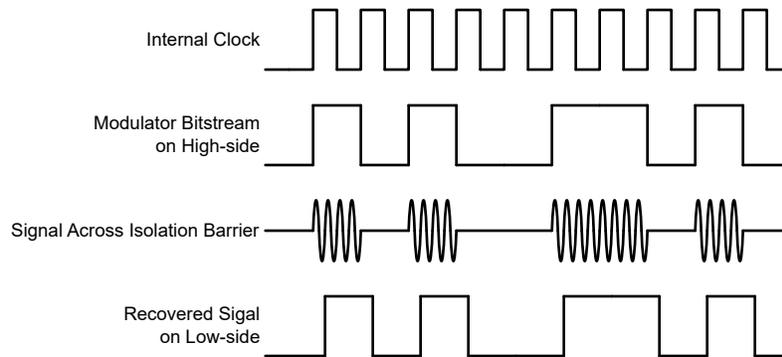

Figure 7-4. OOK-Based Modulation Scheme
As shown in Figure 7-4, the AMC0x06M25-Q1 uses an on-off keying (OOK) modulation scheme to transmit the modulator output bitstream across the SiO₂-based isolation barrier. The transmit driver (TX) is illustrated in the Functional Block Diagram. TX transmits an internally generated, high-frequency carrier across the isolation barrier to represent a digital *one*. However, TX does not send a signal to represent a digital *zero*. The nominal frequency of the carrier used inside the AMC0x06M25-Q1 is 480MHz.